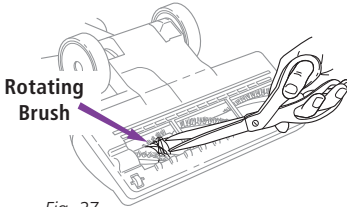

Fig. 27
- 2 Inspect the opening underneath and the rotating brush. If a build-up of debris is present, remove it. Carefully cut anything wound around the rotating brush with scissors. Avoid damaging or cutting the bristles. (Fig. 27)